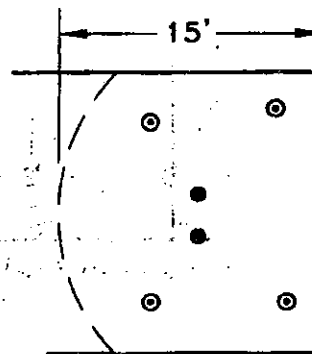

Figure 2-3: 15' Break
If the break were changed to 15', (see Figure 2-3) the deep end would, in most probability, still require the same four (4) heads for proper coverage and in some case could even require more heads in the shallow end to cover the larger area.